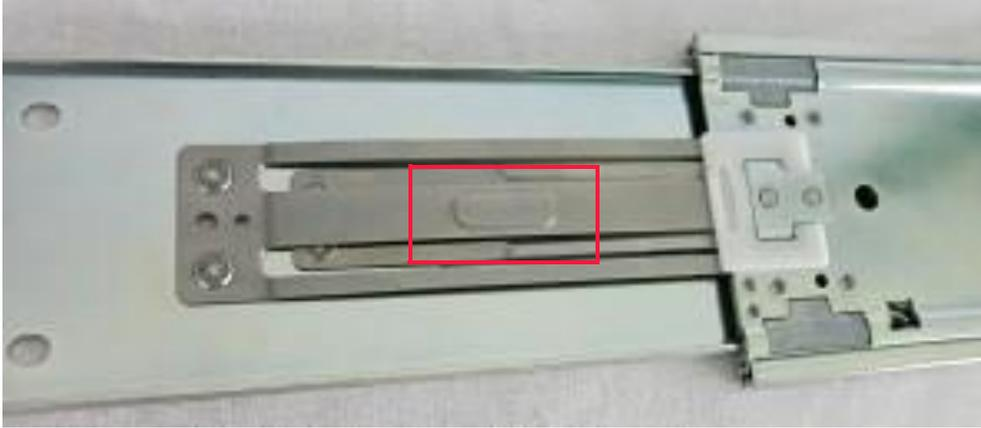

Figure 3.20 Release tab
1. With the enclosure in the serviceable position, press and hold the release tab on each inner chassis member rail (shown in Figure 3.20) to release the rail from the serviceable position and push the enclosure into the rack.